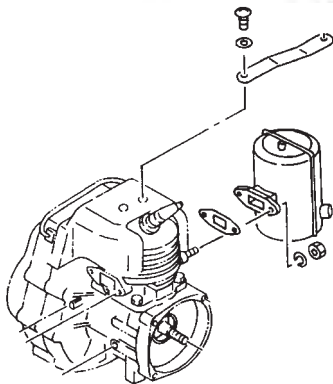

Fig. 25
- Remove the muffler and clean out any excess carbon from the exhaust port or muffler inlet every 100 hours of operation. (Fig. 25, 26)